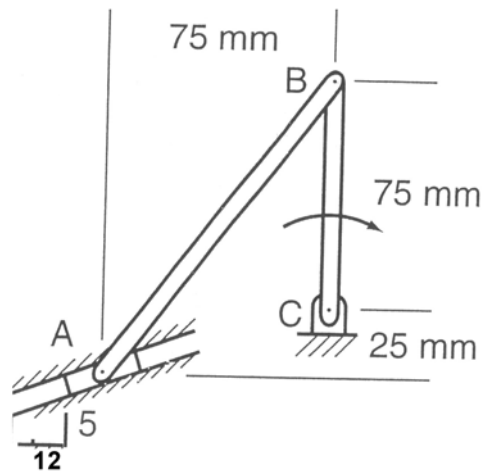

Figure 1
Bar BC in Figure 1 has an angular velocity of 3.73 rad/s clockwise. Determine the angular velocity of AB and the velocity of the piston at A.
2. In order to find the angle of line AB with horizontal direction, use the Figure 1 and calculate the angle as